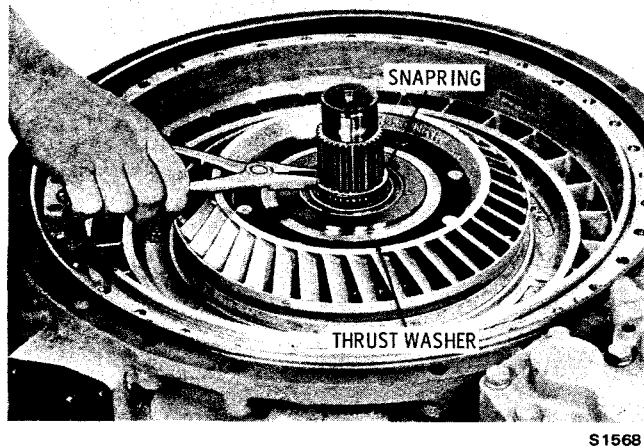

Fig. 5-23. Removing turbine shaft snapping
(3) Using snapping pliers, remove the snapping which positions the converter turbine on the turbine shaft (fig. 5-23). Remove the bronze thrust washer.